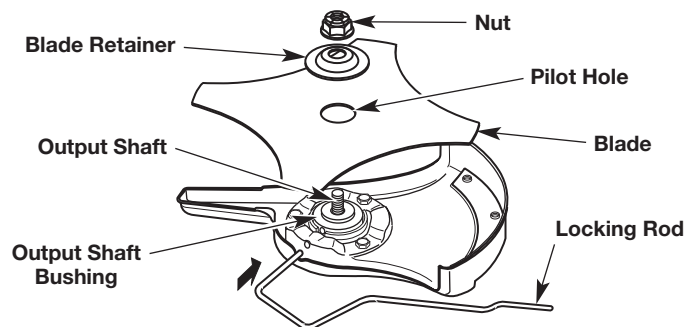

Fig. 15
4. While holding the locking rod in place, put the blade on the output shaft bushing (Fig. 15).
WARNING: To avoid serious personal injury, make sure that the pilot hole on the blade is sitting flat against the output shaft bushing (Fig. 15). The unit will vibrate and the blade may fly off if the blade is not centered.
5. Place the blade retainer on the output shaft with the flat surface against the blade (Fig. 15).
6. Screw the nut onto the output shaft (Fig. 15).